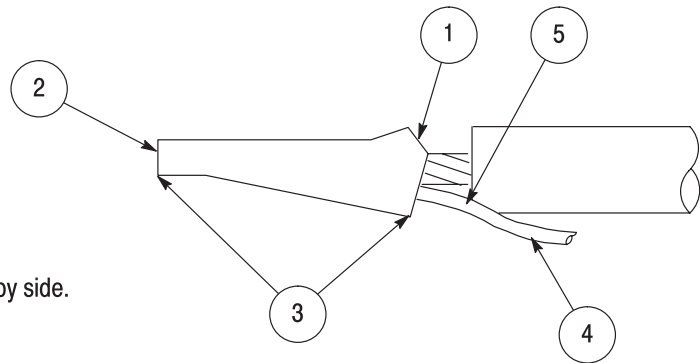

Figure 16
1. Inspect the termination for conformance to the requirements set forth in Figure 16.